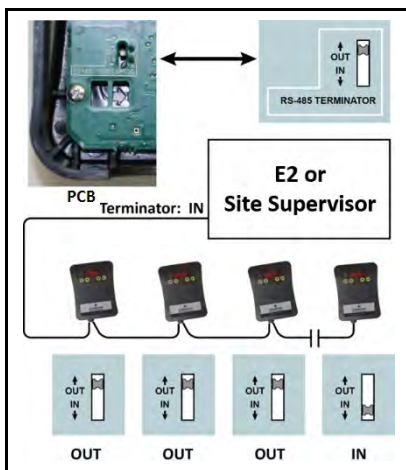

Figure 3-7 - Setting Network Termination Resistors
**NOTE:** Be sure to enable the termination resistor on the device at each end of the network (See Figure 3-7). This includes the Building Management System (if used).